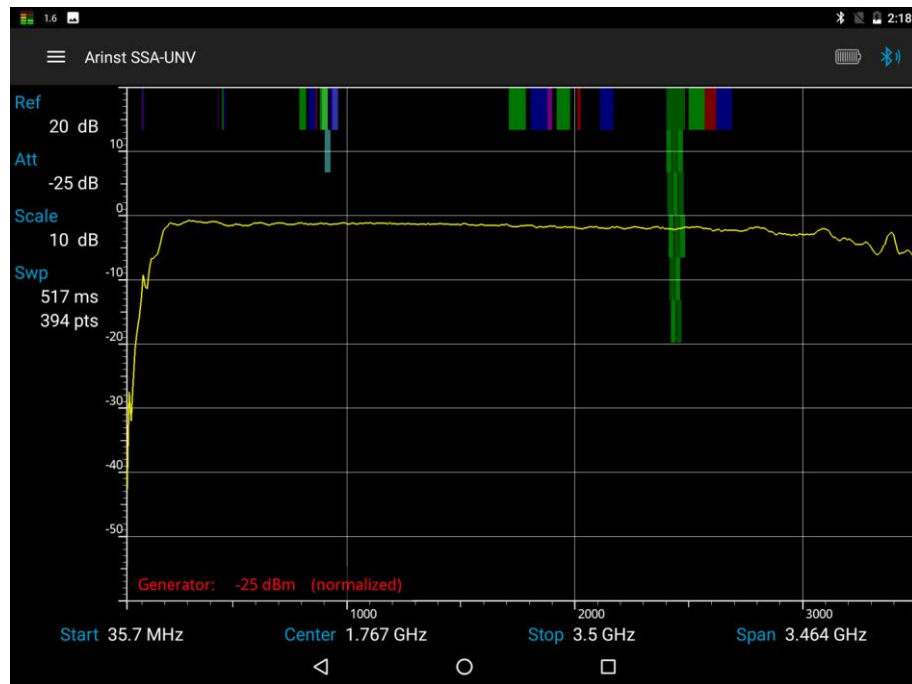

Figure 71 – Amplitude-frequency characteristic of the test equipment
9.2.5. Without turning off the device, turn on the equipment under test in the circuit. The instrument will display a graph of the amplitude-frequency characteristics of the equipment under study in a given frequency range, figure 71.